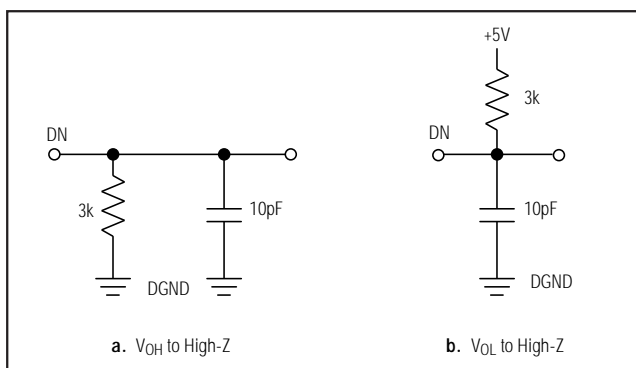

Figure 2. Load Circuits for Bus-Relinquish Time
**Note 16:**  $t_7$  is defined as the time required for the data lines to change 0.5V when loaded with the circuits of Figure 2.